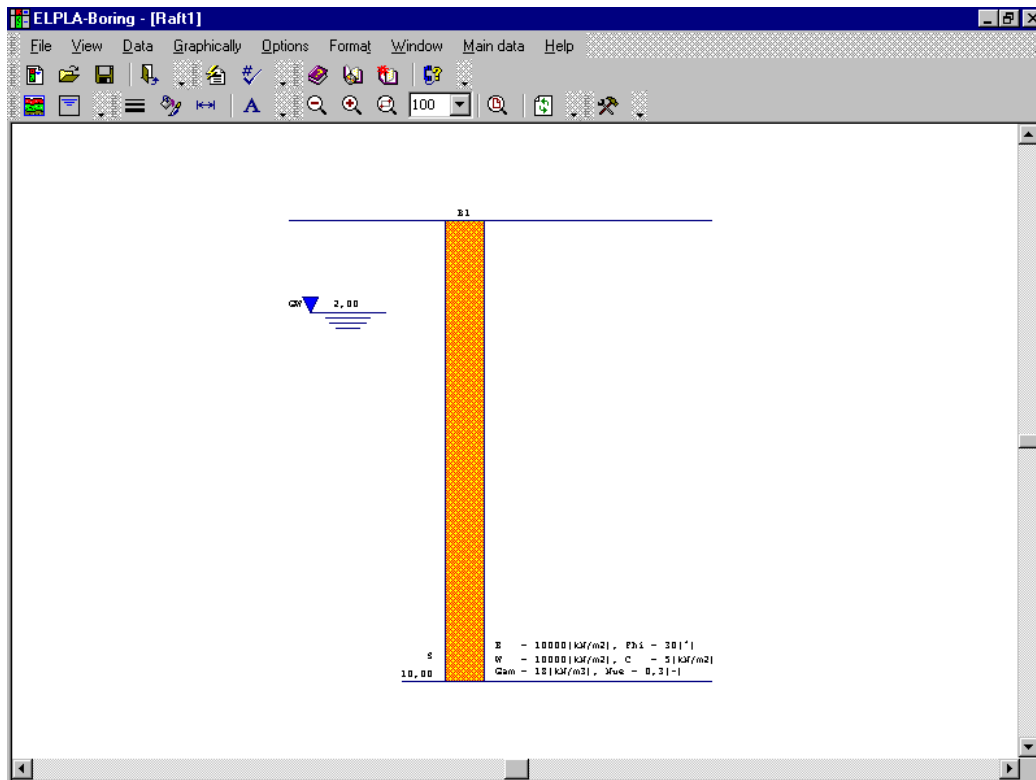

Figure 3-13 *ELPLA-Boring* sub program with a default-boring log
To define the soil properties, choose "Soil properties" command from "Data" menu of *ELPLA-Data* window. The following sub program in Figure 3-13 appears with a default-boring log.
- Choose "Main soil data" from "Data" menu in Figure 3-13. The following dialog group box in Figure 3-19 appears